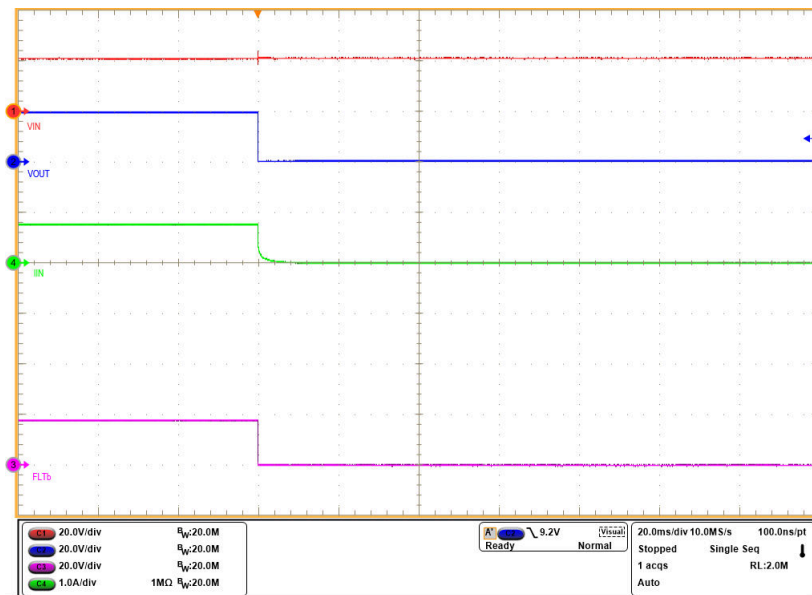

Figure 5-9. IN to OUT Short Response of the TPS1641 Device with External PFET
12. The TPS16412 detects the IN-OUT short and asserts the FLTb, which in turn disables the external PFET to isolate the load from the supply. Figure 5-9 shows the IN-OUT short response with external PFET in the circuit.